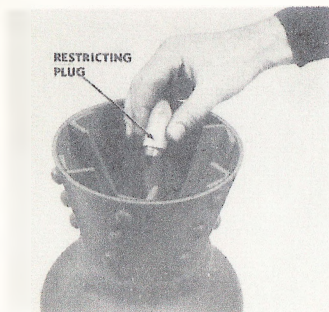

Fig. 27. Restricting plug removed from firing pin holder.
a. Restricting plug. To remove restricting plug, insert screw driver into slotted head of plug and unscrew (fig. 27). To replace, reverse procedure for removal.